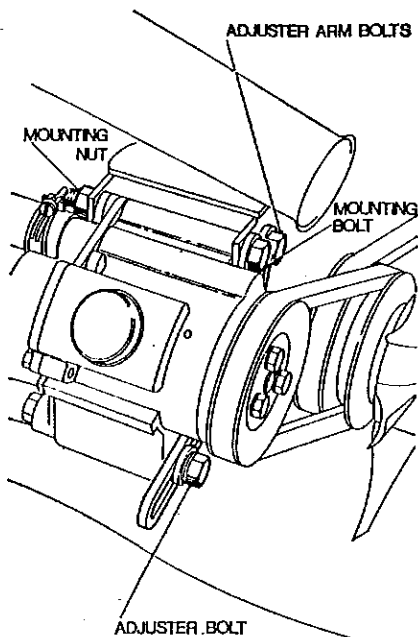

Fig. 30. Thermactor Drive Belt Adjustment
- i) Slacken the mounting nut and bolt (fig. 30).